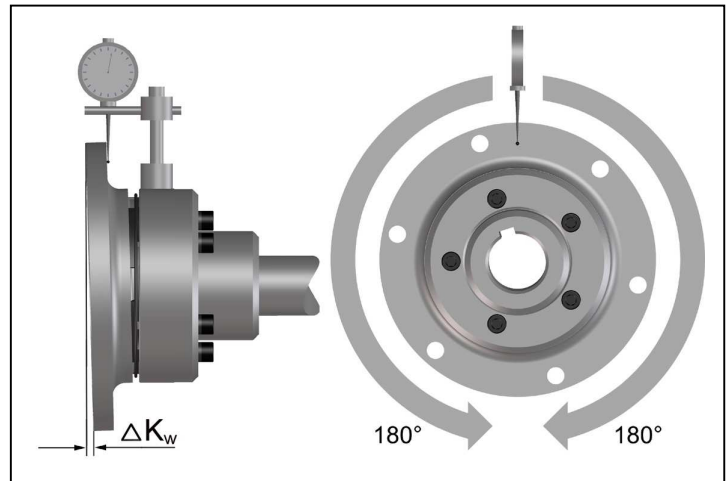

Fig. 7
- Measure one complete revolution (360°) on the face of the outer diameter. Determine the largest deviation  $\Delta K_{w1}$  and the smallest deviation  $\Delta K_{w2}$  (Fig. 7).